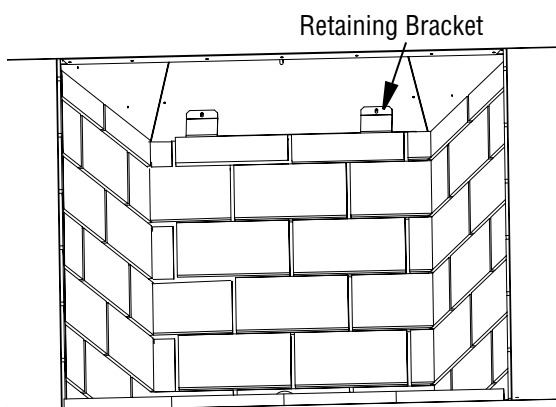

Figure 34 - Installing Rear Wall
5. Install the rear firebrick wall last. Place the wall face side down on the hearth with the bottom of the wall toward the rear of the firebox and the top toward the front of the fireplace. Tilt the wall up toward the back of the firebox. Secure with 2 rear retaining brackets provided (Figure 34, page 17).